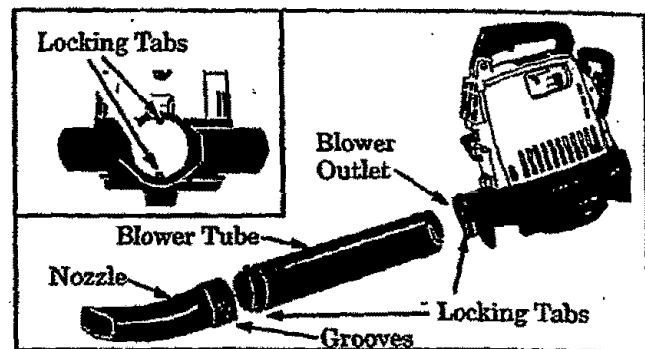

Figure 1
1. Locate the two locking tabs on the side of the blower tube. Figure 1.
4. Align Grooves on the Blower Tube with Locking Tabs in the Blower Outlet (Figure 1, inset) and push the Blower Tube into the Blower Outlet.